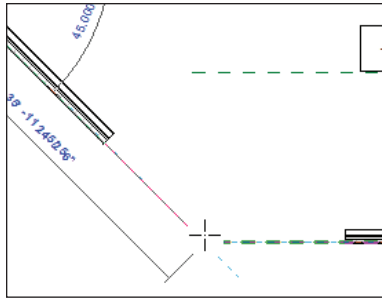

FIGURE 2.15 Stretching the wall using the blue grip
2. On each end, you will see a solid blue grip. Pick the right solid blue grip and drag the wall down to meet the reference plane, as shown in Figure 2.15.